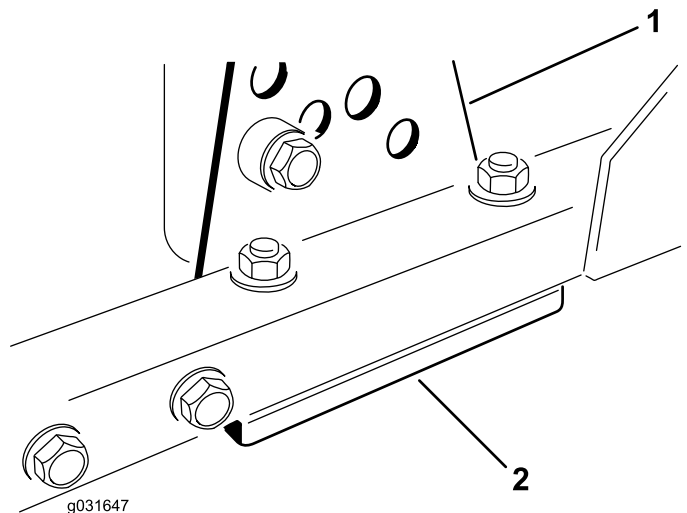

Figure 69
1. Remove the height-of-cut bracket (front, left, or right) from the deck frame (Figure 69).
- Adjust the 1.5 mm (0.06 inch) shims and/or 0.7 mm (0.03 inch) shim between the deck frame and bracket to achieve the desired height of cut (Figure 69).
- Install the height-of-cut bracket to the deck frame with the remaining shims assembled below the height-of-cut bracket (Figure 69).